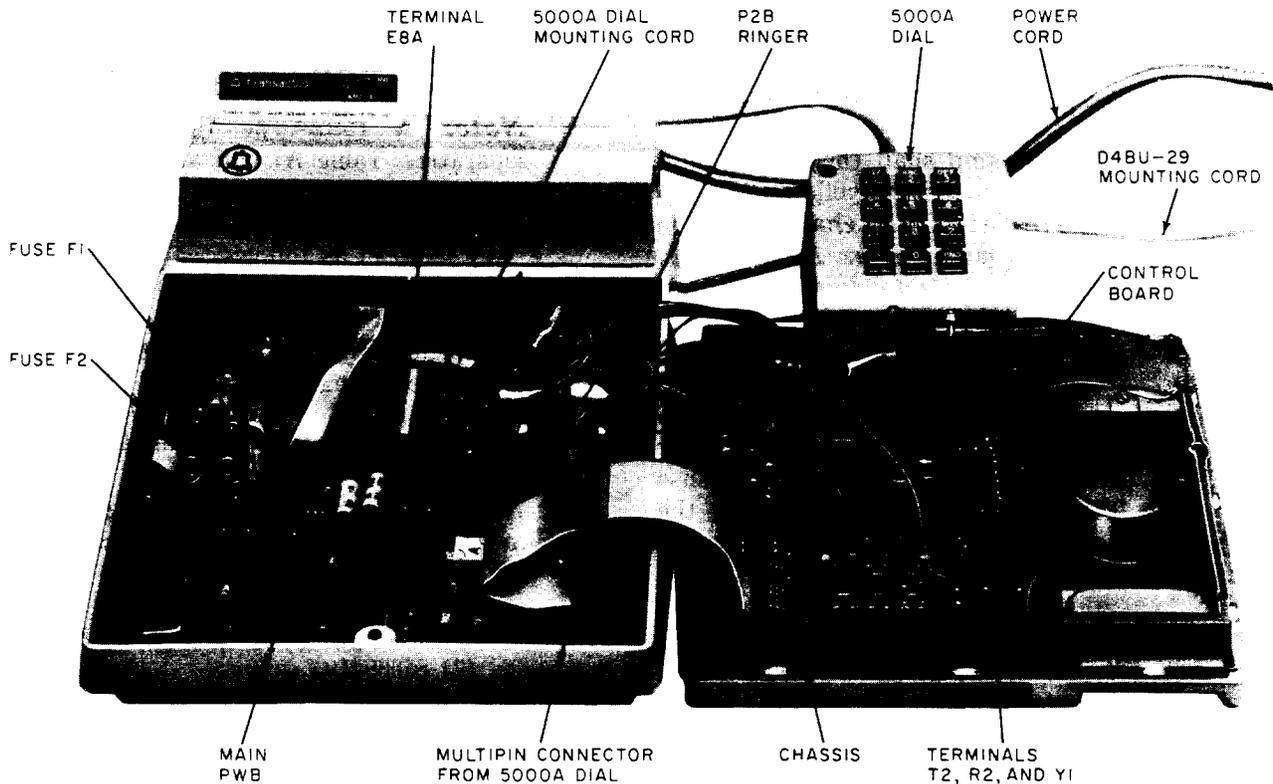

Fig. 5—5000AM Transaction I Telephone Set Base With Upper Housing and Chassis Laid Aside and 5000A Dial Connected
- (3) Lay the upper housing and chassis to the right, as shown by Fig. 5, without disconnecting any cables.
(3) Install new 138B-type faceplate.
(4) Open the set (3.07); lay the upper housing and chassis to the right (Fig. 5).
(5) Hold the lower housing up on its side and feed the mounting cord of the dial through the cord entrance hole in the base pan. Using Fig. 5, make connections as follows:
4.02 There are two fuses, (F1 for -12 volt and F2 for +5 volt circuitry) mounted on a block near the left rear corner of the main PWB, Fig. 5. If a fuse failure is suspected, the fuses may be removed (access per 3.07), and checked visually or observe the following indications: